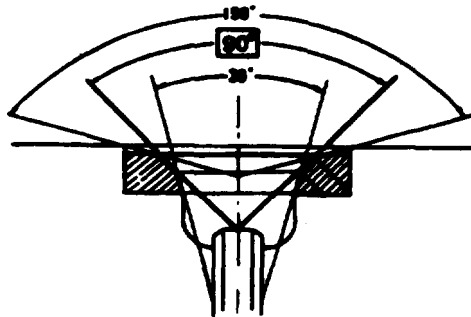

FIGURE 3-74. Valve Seat Correction
- (2) Use a valve cutter (15, 45, and 75 degree blades) to minimize scratches and other rough areas. This will bring contact width back to standard value, refer to FIGURE 3-74.
- (3) Remove only scratches and rough areas. Do not cut away too much. Take care not to cut away unblemished areas of valve seat surface.